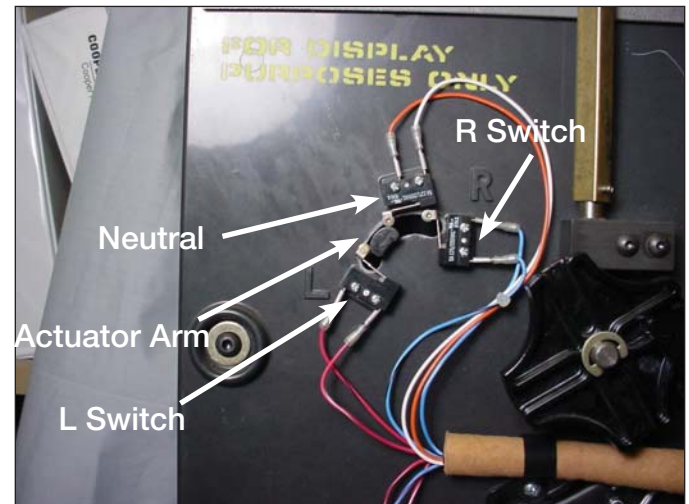

Figure 42.
- Place and fasten the reversing logic and neutral logic micro switches on the upper left of the drive assembly panel. The micro switch with a blue white striped wire and blue black striped wire is located on the R position. The micro switch with a red white striped wire and red black striped wire is located on the L position. The micro switch with an orange wire and a white wire is located on the center position between the R and L position. See Figure 42.
- Rotate the pinion back clockwise until the arm in Figure 42 is in the center and the neutral switch is depressed.